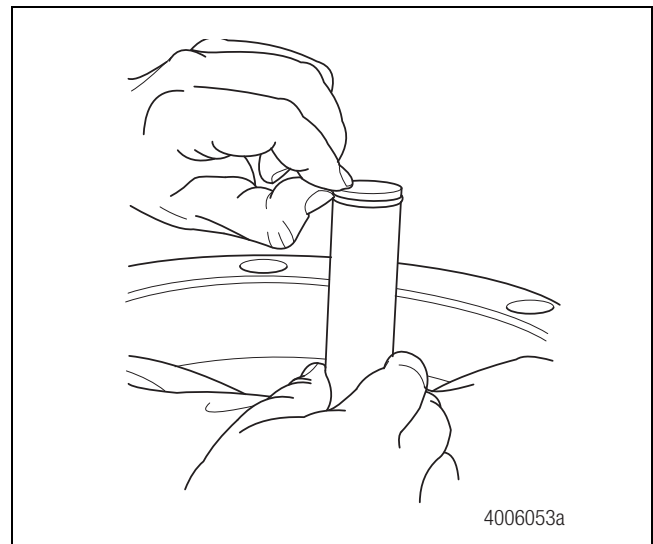

Figure 11.2
3. Grease the new pinion shaft O-rings with Meritor-approved white lithium grease and install them onto the pinion shafts. Figure 11.2.